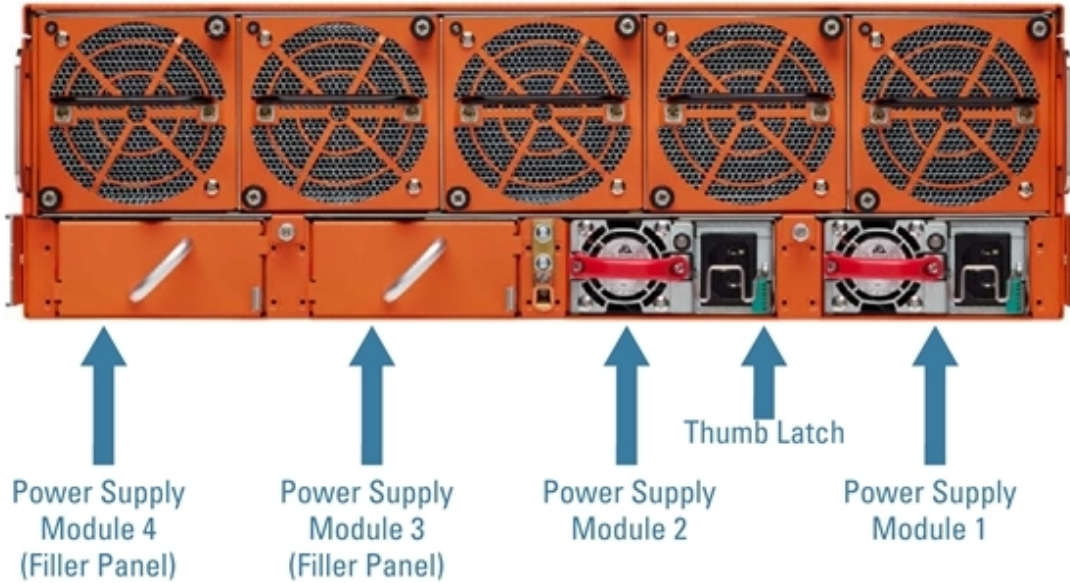

Figure 5: Power Supply Modules (AC Version Shown)
- Carefully slide the first PSM into the matching receptacles at the lower rear of the node (Figure 5: Power Supply Modules (AC Version Shown)). Push gently to seat the PSM firmly in the chassis until the thumb latch snaps into place.
NOTE: If using two PSMs, leave filler panels in as shown in Figure 5: Power Supply Modules (AC Version Shown). The filler panels aid in air flow distribution. If a PSM fails, leave it in the chassis.